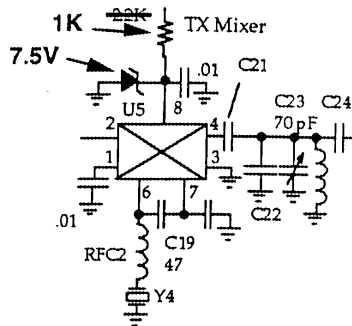

Figure 1: Transmitter Drive Level
2) Drive level in the transmit chain may be improved by ensuring that the TX mixer is supplied by something close to 8 volts. As configured in the original version, the TX mixer runs on a nominal 6V supply voltage, although your mileage may vary. By incorporating the fix shown in Figure 1, signal voltage into the buffer section (Q4/Q5) was improved by 15% in the sample I fixed. If you don't have a 7.5 V zener handy, it's also possible to parallel the existing 2.2K mixer supply resistor with another resistor (start with 22K) to bring the key-down voltage (U5-pin 8) up to 7.5 volts.